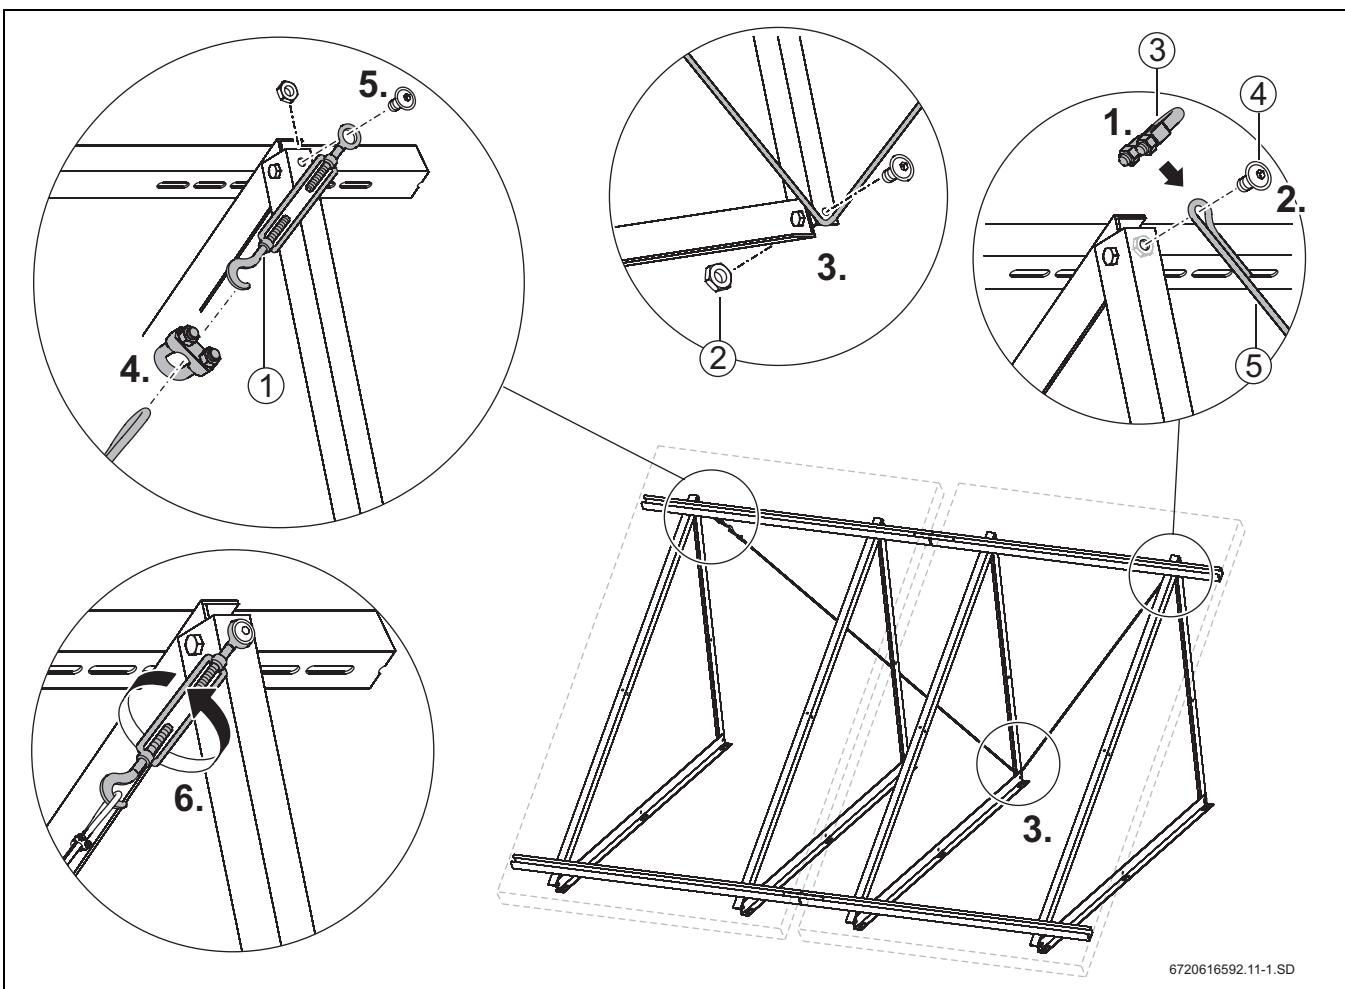

Fig. 23 Always attach the steel cable to two vertical collectors
▶ Ensure screw and nut (fig. 23, [2]) are sufficiently tight.